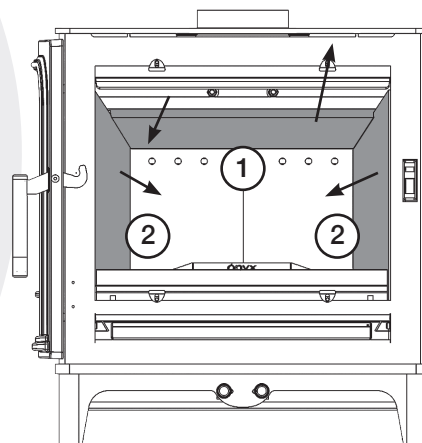

FIG. 12 — Firebox
1 & 2: Lift up the front of the (1) bottom baffle (30mm thick fireboard) to allow the two side firebricks (2) to drop into the firebox and be removed (see Fig 12).